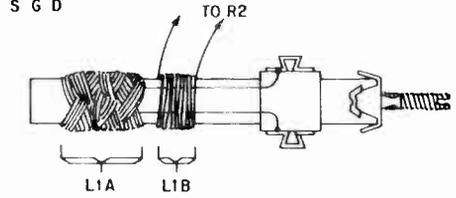
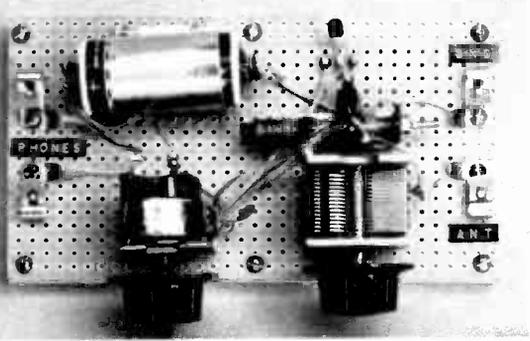

Fig. 10—Feedback winding L1B is wound on form slightly to the right of existing winding. It is 25 scramble-wound turns of No. 28 enameled wire.
Fig. 8—Our radio was breadboarded on piece of perforated board to make it easy to experiment with circuit. Receiver can be put in small box.
**Construction.** Details about building the receiver are covered in the captions for Figs. 8 and 9. Coil L1 is mounted with the bracket supplied with it. Before installing L1, scatter-wind 25 turns of No. 28 enameled wire around the form as shown in Fig. 10. Wind the wire in the same direction as the original winding.